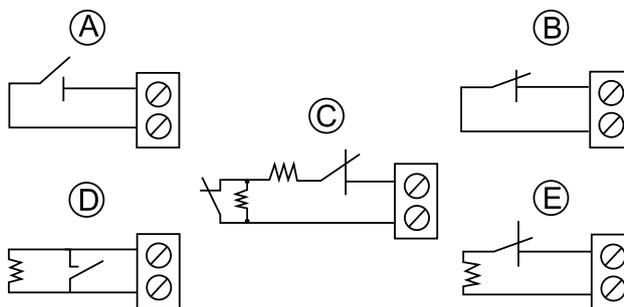

Figure 12: Wiring examples
NC	Exclusively use series connected NC sensor contacts if the auxiliary input of the MC-312 PG2 is defined as a normally closed (NC) type. An EOL resistor is not required. See Figure 12, B.
NO	Exclusively use parallel connected NO sensor contacts if the auxiliary input of the MC-312 PG2 is defined as a NO type. An EOL resistor is not required. See Figure 12, A.
EOL	For EOL supervision, you can use NC or NO sensor contacts. A 5.6 kΩ EOL resistor must be wired at the far end of the zone loop. See Figure 12, D and E.
DEOL	For DEOL supervision, use NC sensor contacts only. A 5.6 kΩ EOL resistor must be wired at the far end of the zone loop. See Figure 12, C.
Note: Figure 12 (C) illustrates a DEOL resistor setup, which is available depending on the panel software version.